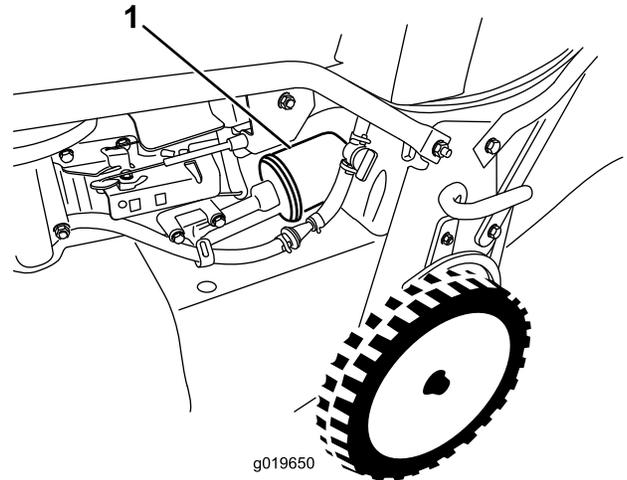

Figure 32
6. Remove the oil filter (Figure 32).